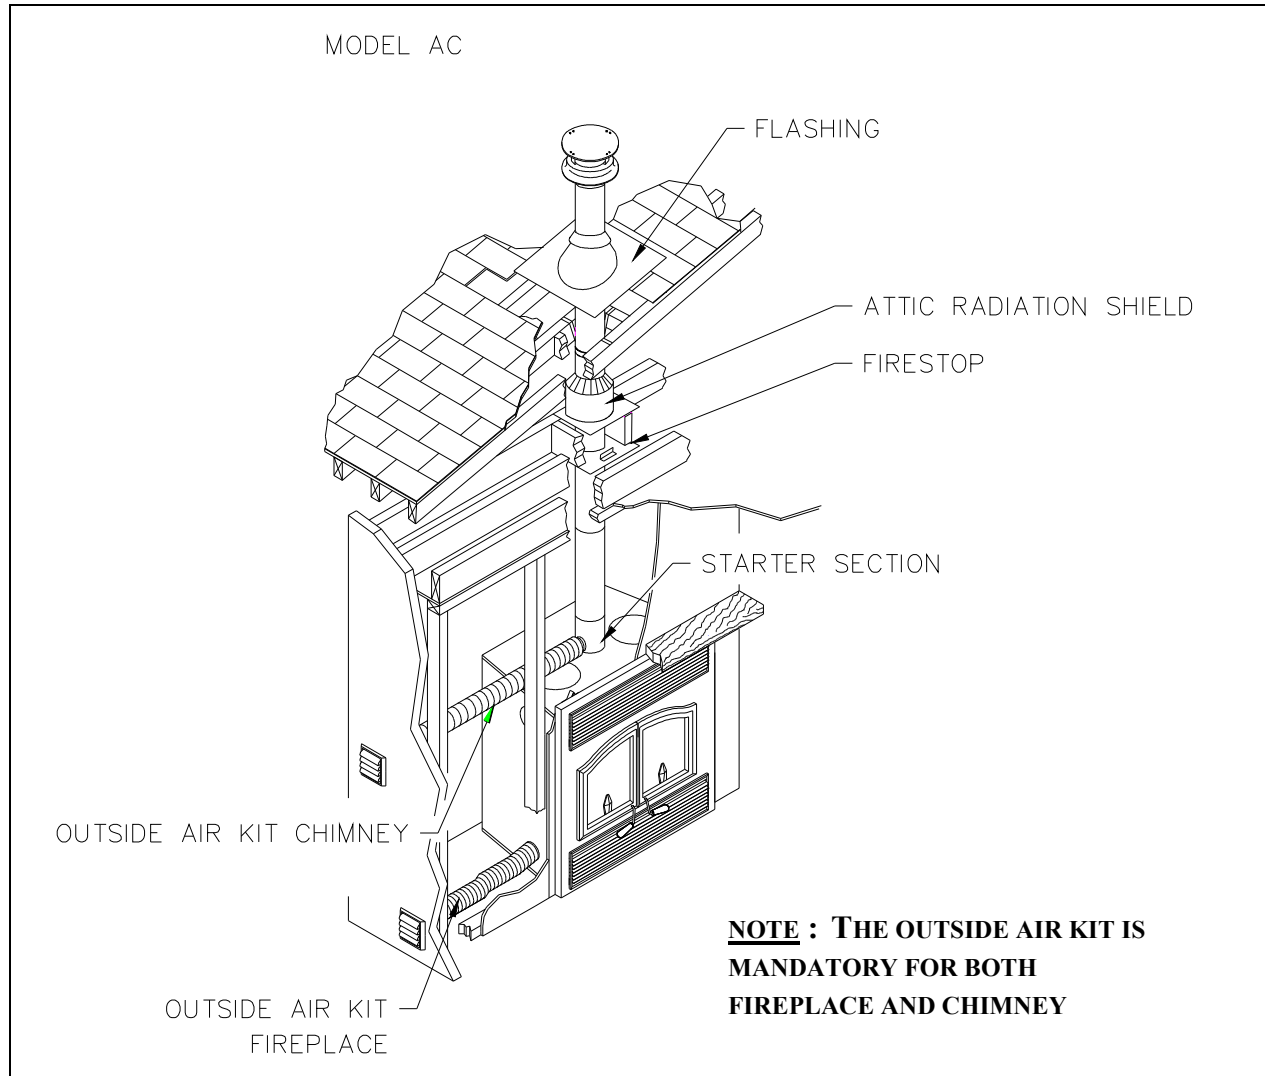

Figure 25
3. For Secure Temp^{ASHT+} / Nova Temp^{HT6103+} and Secure Temp^{S2100+} / Nova Temp^{HT6000+} chimneys, place the first chimney length on the fireplace. To lock it in place, turn 1/4 of a turn clockwise. With the AC chimney, you must use a starter section before installing the first chimney length (figure 25). Continue installing chimney lengths making sure to lock each length in place.